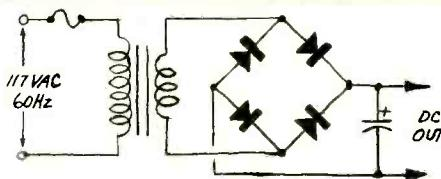

Fig. 1. Schematic of a basic power supply. The transformer steps the voltage down, the diodes rectify the voltage, and the capacitor smooths the output.
**From the Beginning.** The schematic diagram of a very basic power supply is shown in Fig. 1. The power transformer steps down (or up for high-voltage supplies; in this article emphasis is on the low-voltage supply) the input voltage from the ac line to roughly the voltage needed for the project. The low voltage at the transformer's secondary then goes through a rectifier system, where it is converted to pulsating dc. The filter system then smooths out the pulsations to make the dc voltage at the supply's output more like the steady-state dc characteristic of batteries.